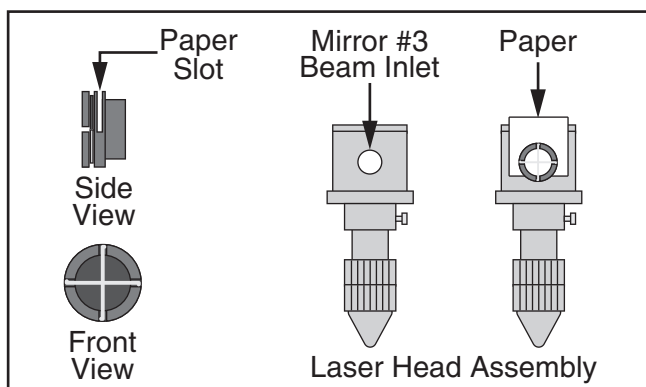

Figure 105. Laser beam alignment gauge installed in beam inlet.
10. Insert 1" piece of paper or manila folder into small slot on laser beam alignment gauge behind wire crosshairs, and install gauge in beam inlet on laser head assembly (see **Figure 105**).